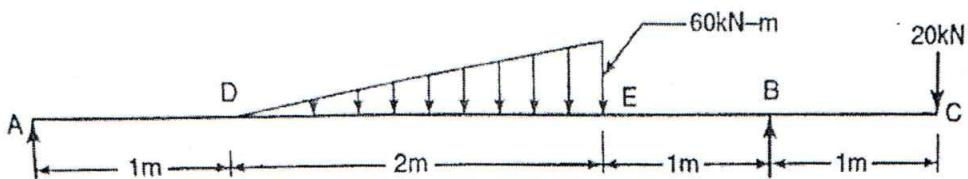

Figure Q3b
b) An overhanging beam of span 5 m is loaded as shown in figure Q3b. Draw the SFD and BMD indicating all the significant values including the point of contraflexure. 12